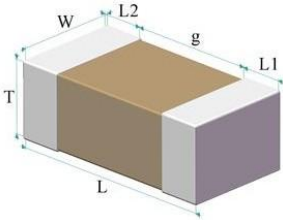

Fig.1 Structure & Dimension
| 2   | Size Code                                 | See Fig.1 and ② Size Code                                                                                                                                                                                                                                                        | Measuring by gages which precision is not less than 0.01 mm.                                                                                                                                                                                                                                                                        |